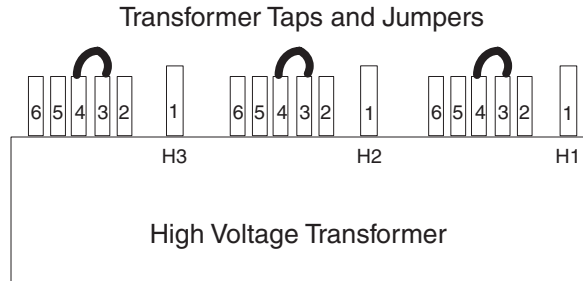

Figure 5-6 PDU Tap Positions (Rear)
- 2.) After you determine the nearest nominal line, verify the tap connections match (refer to Table 5-2 and Figure 5-6 for tap locations).